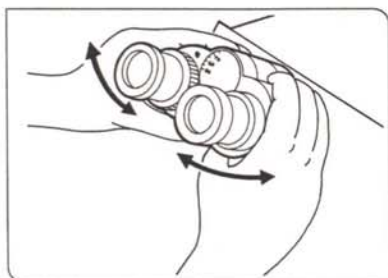

Fig. 27
Adsorption of immersion oil can cause the specimen to float. In such cases, it is recommended to use the optional specimen clip (BH2-SCB-3) for oil immersion objectives ③. (Fig. 27)
#### 1 Interpupillary Distance Adjustment (Fig. 27)